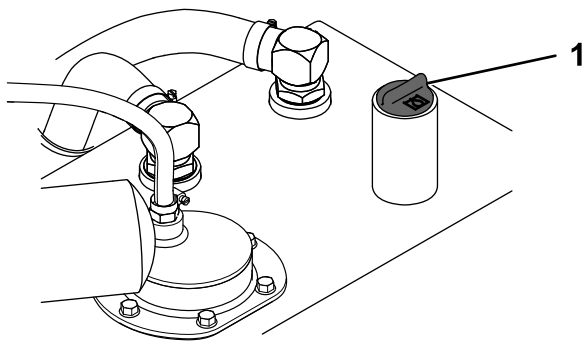

Figure 77
6. Clean the area around the filler neck of the hydraulic tank (Figure 77).